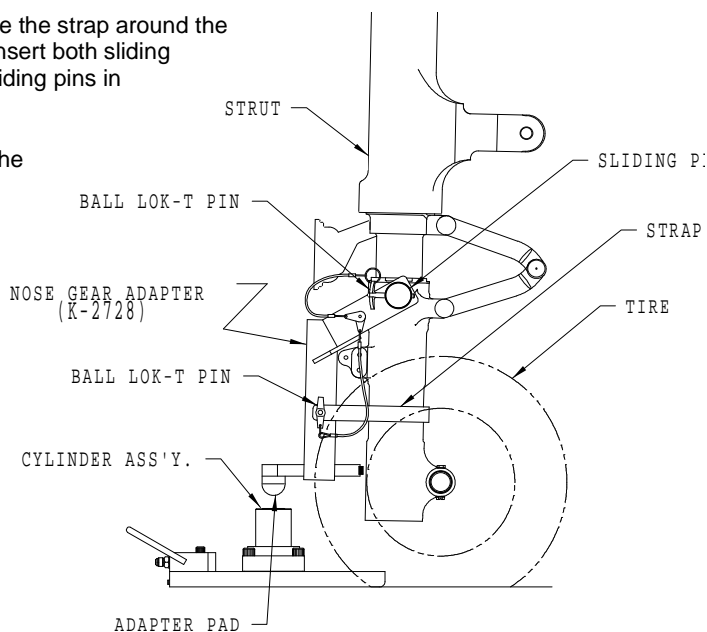

Figure 2
5.1 TO RAISE NOSE GEAR (Reference Figure 2)